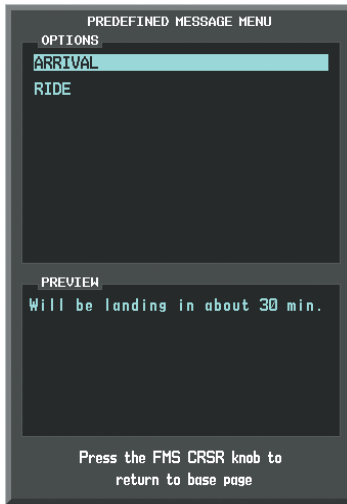

Figure 8-102 Predefined Message List
- 4) Select the **PREDEFD** Softkey. The PREDEFINED MESSAGE MENU Window is displayed as seen in Figure 8-102.